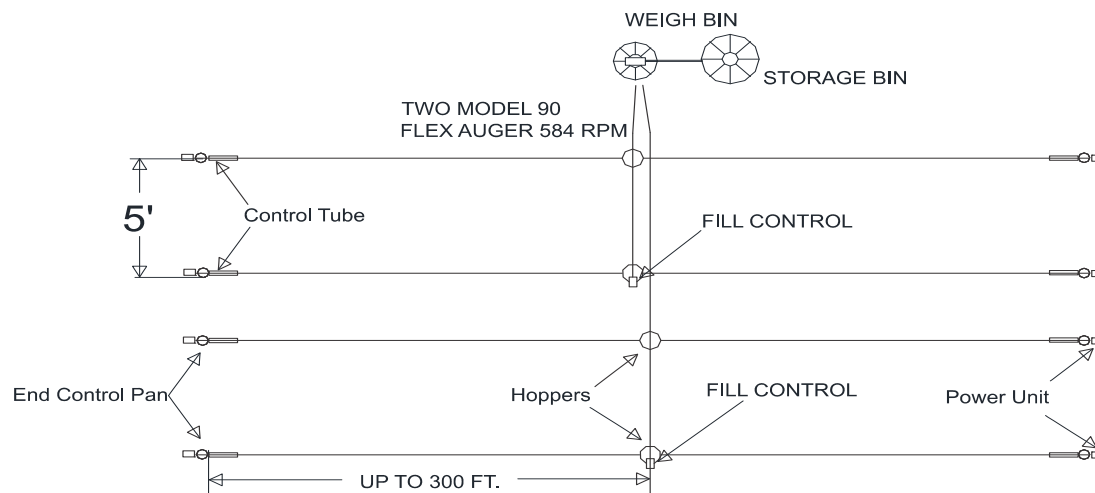

Figure 1. Planning the system
**Figure 1.** shows a house with four feeder lines. The max length from hopper to power unit is 300'. The feed line uses a 696 RPM power unit. With a Model C2 Plus Shallow control pan.